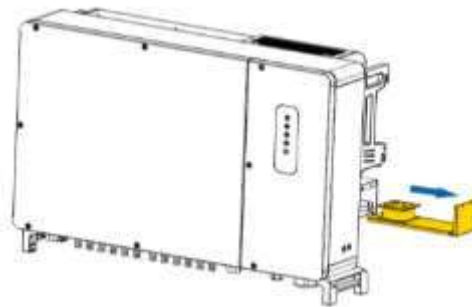

Fig. 6-2 Pull out the fan module
- 4) Pull out the fan module, clean the fans with soft brush or vacuum cleaner, and replace them when necessary (Fig. 6-2).